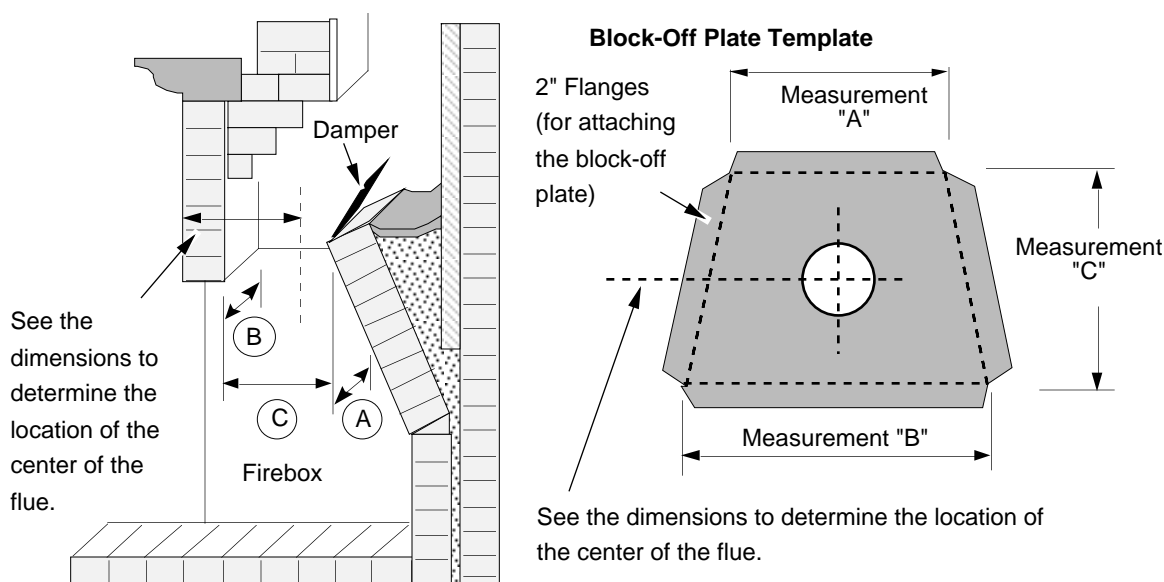

Figure 19
- Determine a location for the block-off plate at the top of the firebox below the damper area (make it high enough to allow installation of the connection pipe). The location should be level and in an area where it can be mounted easily. Measure the width at the rear ("A") and front ("B") of the firebox at the height where the block-off plate will be installed (see Figure 19). Then measure the depth of the location where the block-off plate will be installed ("C").